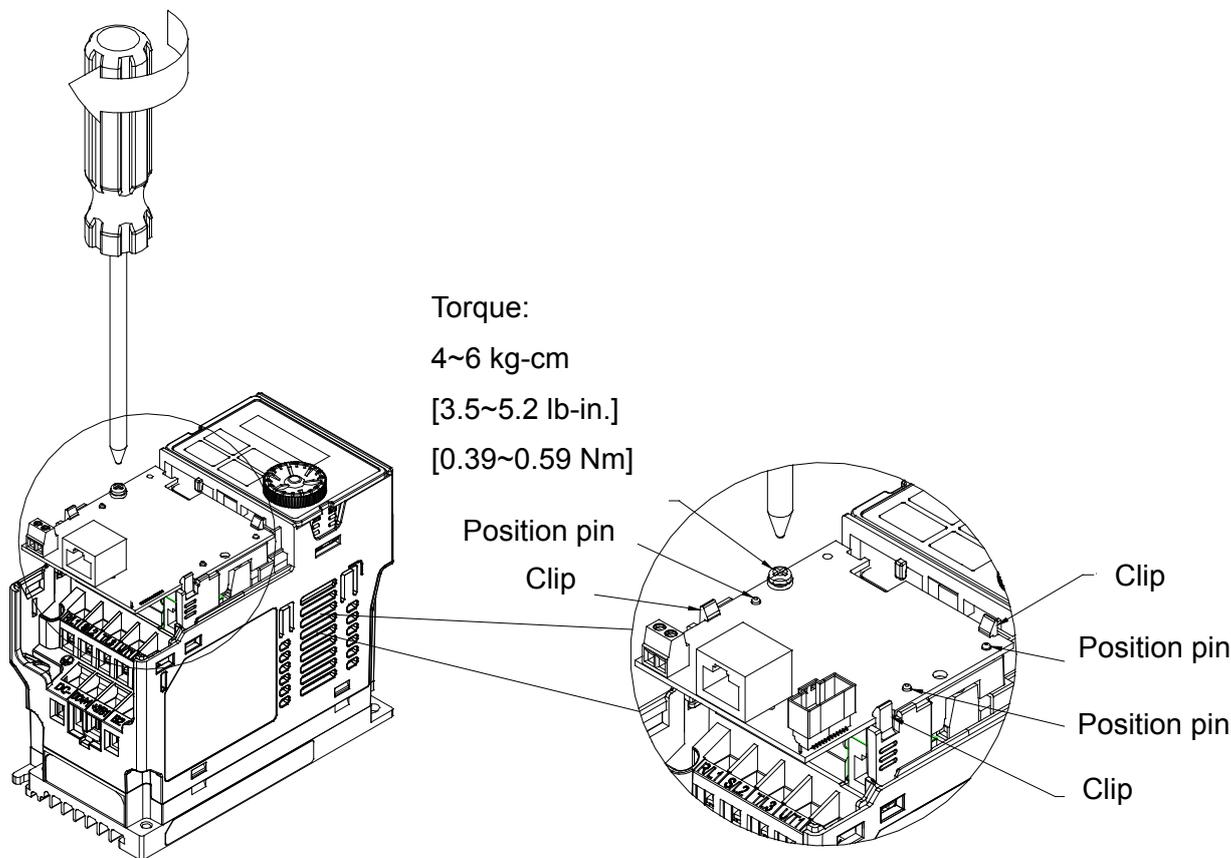

Fig. 3
- Wiring after the communication card fixed fitting is clipped with the holes (see  NOTE). Fasten the screw if the communication card maintains front mounting. Torque: 4~6 kg-cm / [3.5~5.2 lb-in.] / [0.39~0.59 Nm], do not close the front cover at this time. (shown in Fig. 3) If close the front cover, please refer to the subsequent steps.